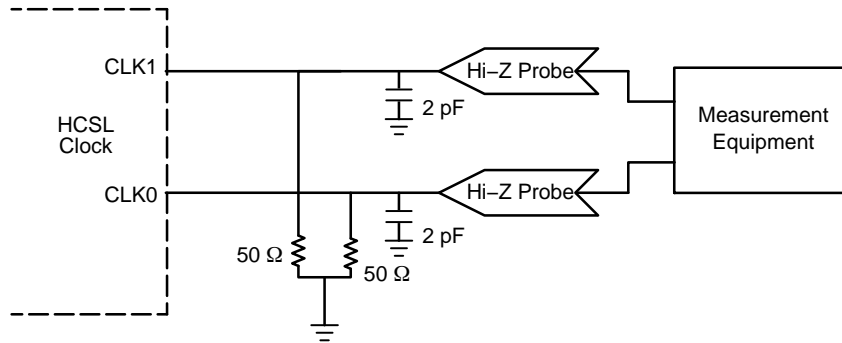

Figure 8. HCSL Parameter Measurement
6. Measurement taken with outputs terminated with  $R_S = 0 \Omega$ ,  $R_L = 50 \Omega$ , with test load capacitance of 2 pF. See Figure 8. Guaranteed by characterization.